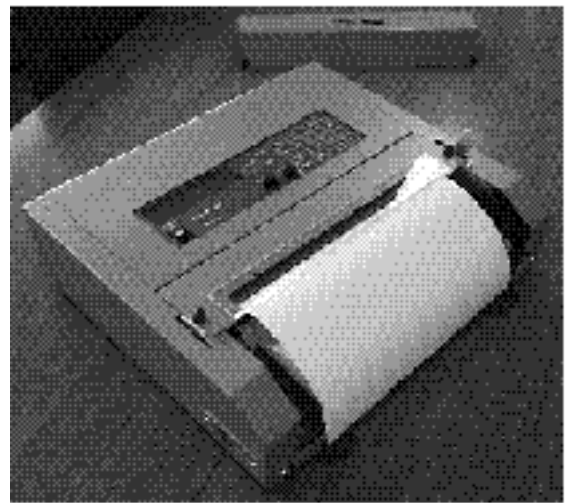

Figure 5
5. Attach the paper compartment lid. See Figure 5.